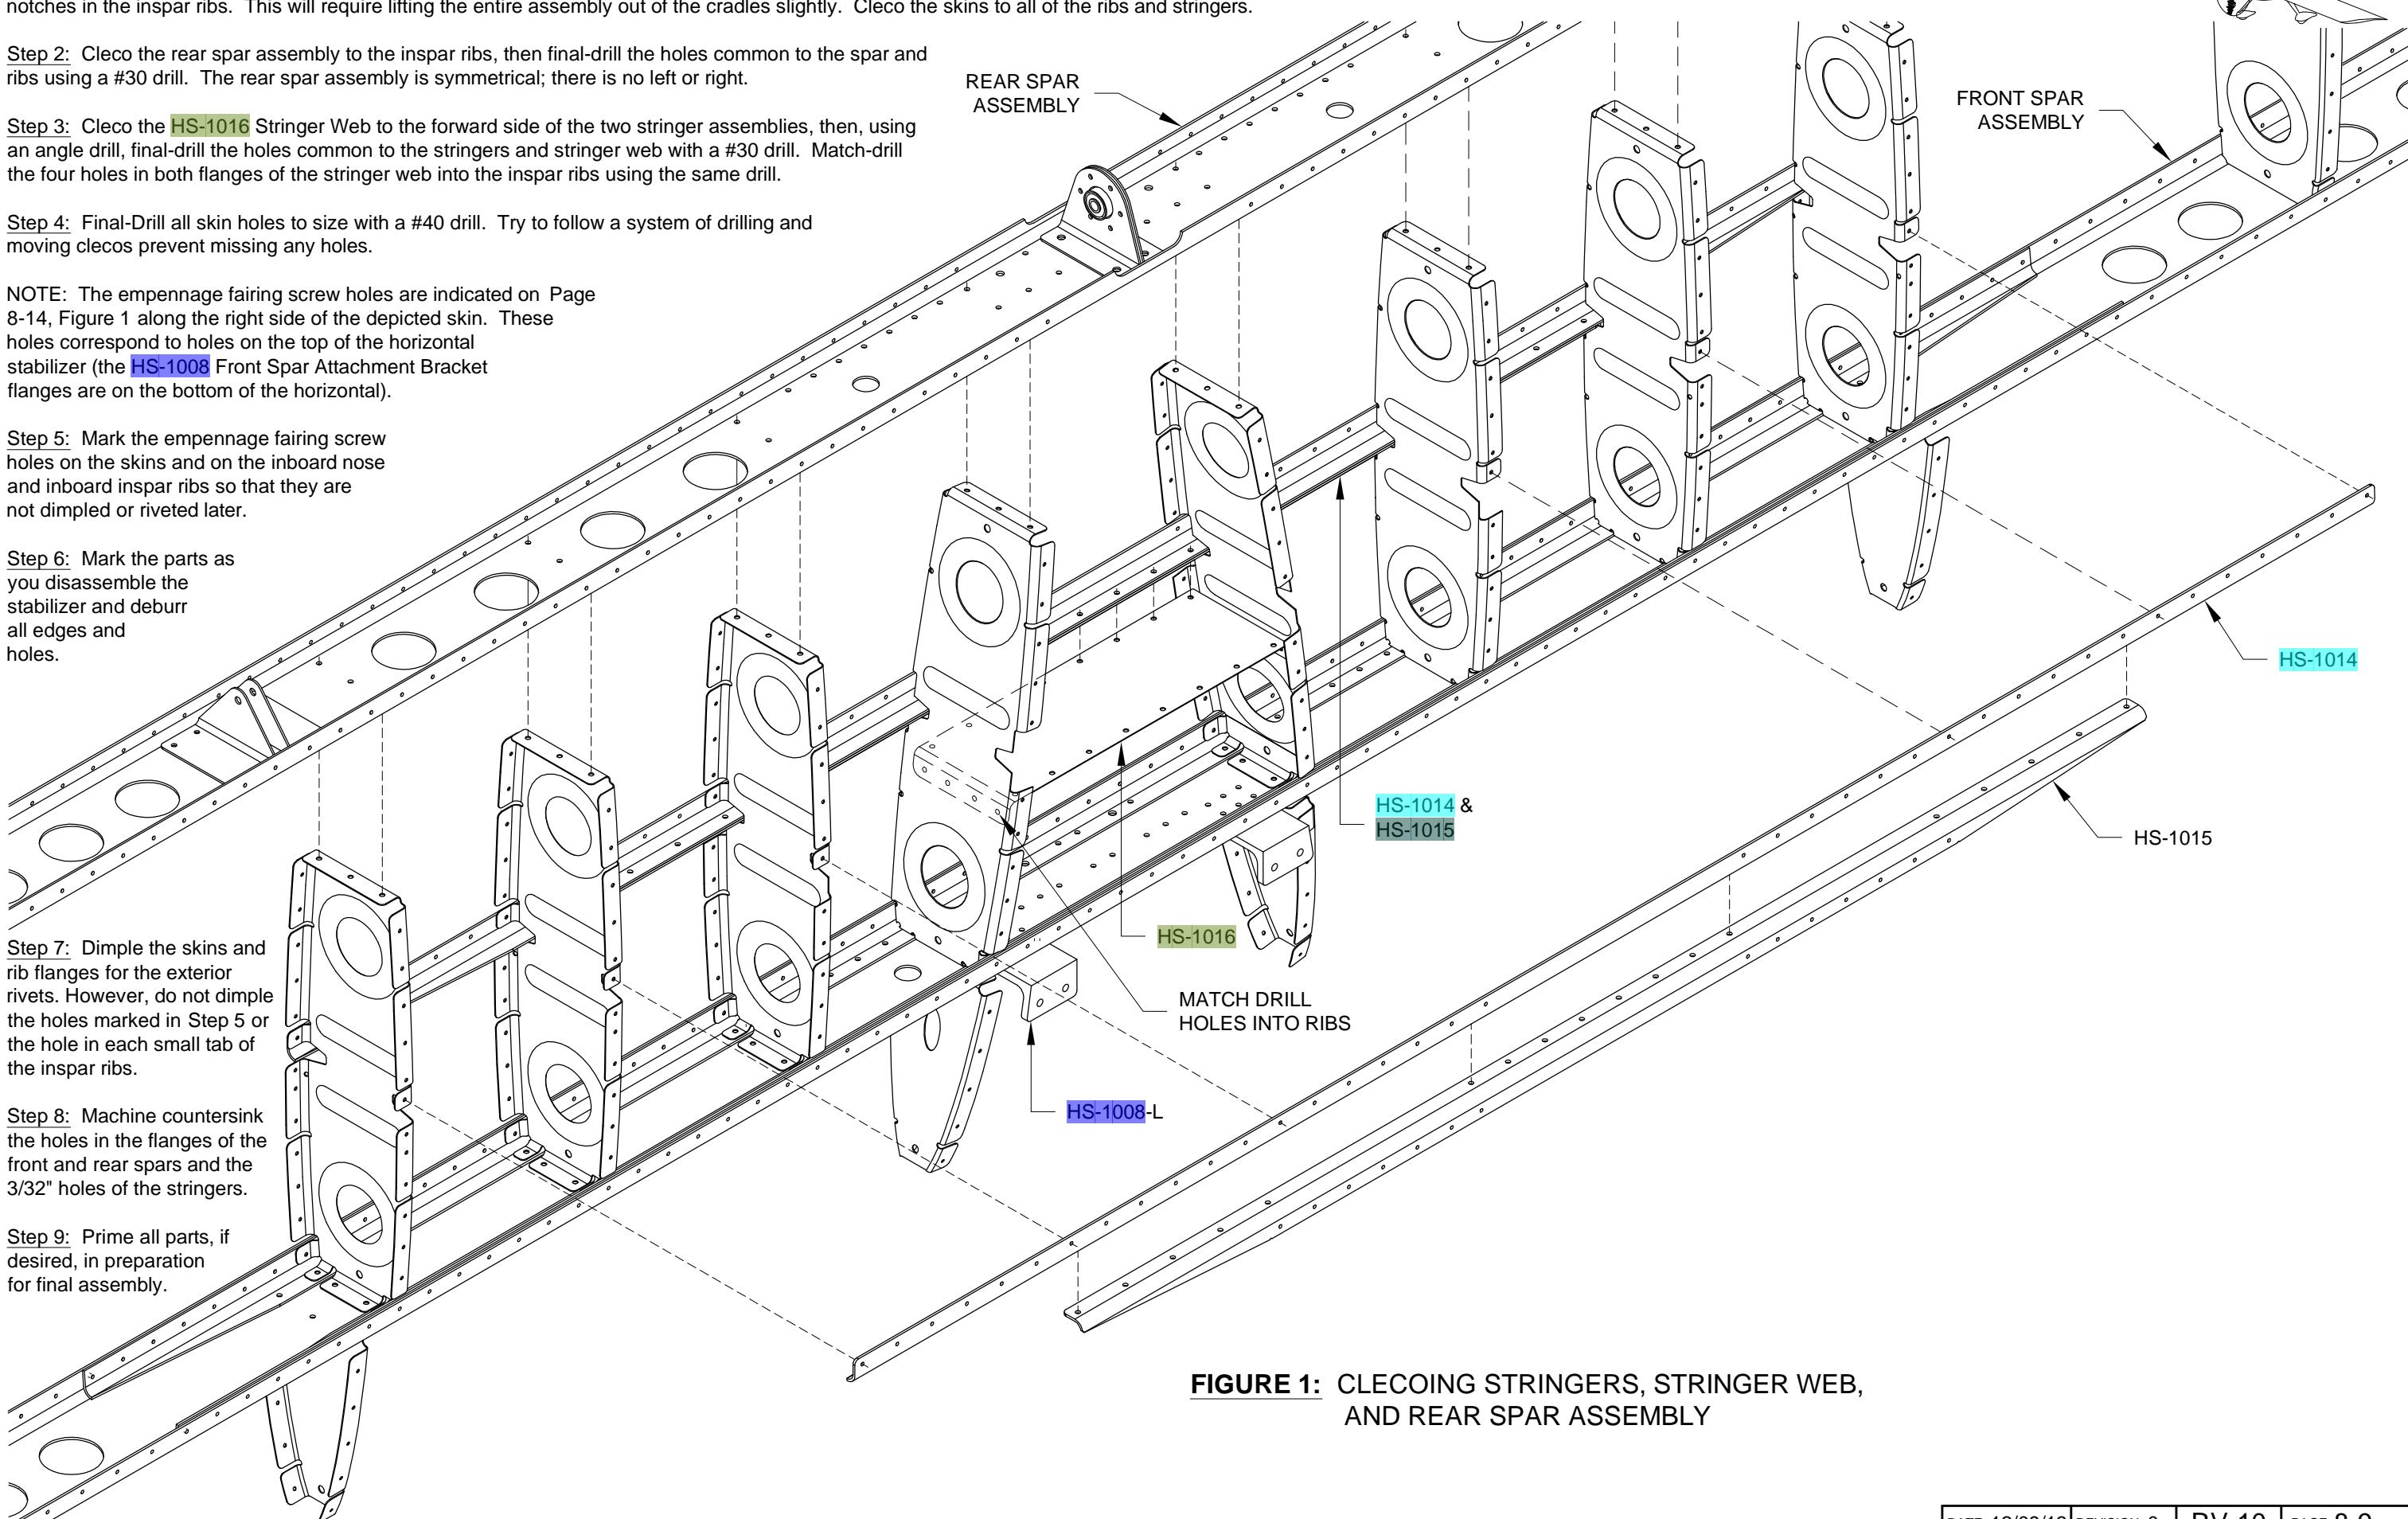

FIGURE 1: CLECOING STRINGERS, STRINGER WEB, AND REAR SPAR ASSEMBLY
Step 1: Rivet the two inboard HS-1004 Inspar Ribs to the flanges of the HS-1016 Stringer Web using the rivets in Figure 1.